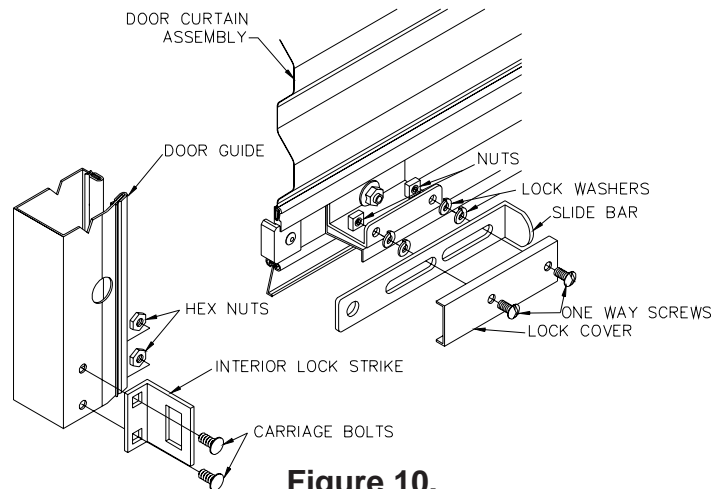

Figure 10.
11.2 Assemble components as shown in Figure 10, noting that two (2) high collar lock washers are placed over each 1/4" one-way screw to allow the lockbar to slide freely.